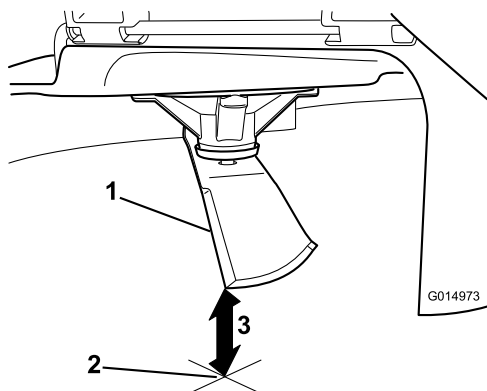

Figure 51
3. Measure from the tip of the blade to the flat surface (Figure 51).